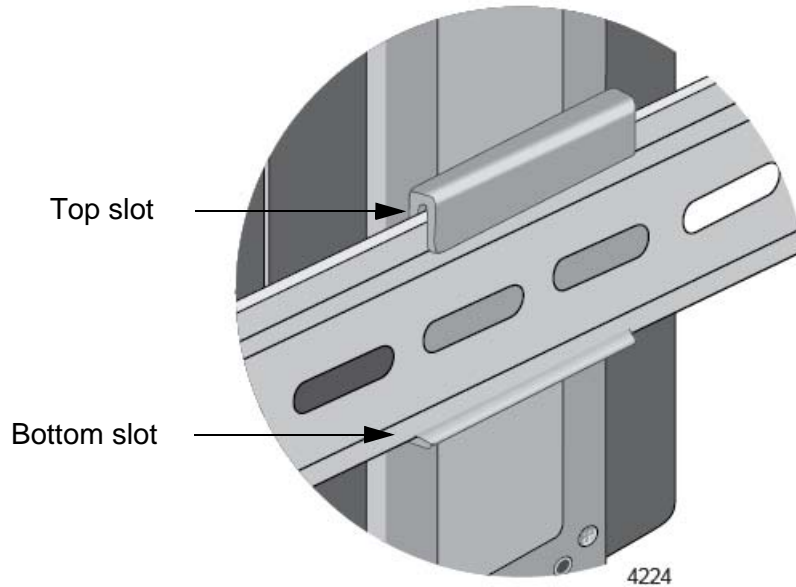

Figure 20. Verifying the DIN Rail Installation
3. Visually inspect the bracket to verify that the DIN rail is now fitted into the top and bottom slots. Refer to Figure 20.